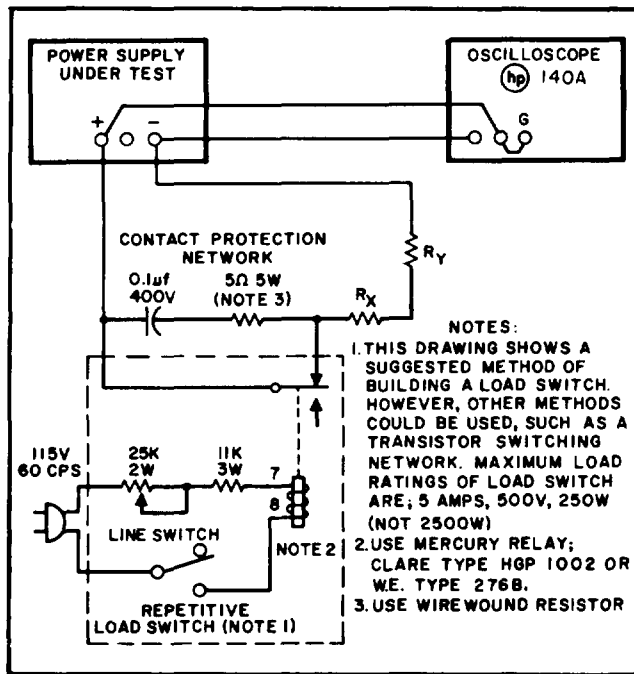

Figure 5-8. Transient Recovery Time, Test Setup
5-35 A mercury-wetted relay, as connected in the load switching circuit of Figure 5-8 should be used for loading and unloading the supply. When this load switch is connected to a 60Hz ac input, the mercury-wetted relay will open and close 60 times per second. Adjustment of the 25K control permits adjustment of the duty cycle of the load current switching and reduction in jitter of the oscilloscope display.
- a. Connect test setup shown in Figure 5-8.